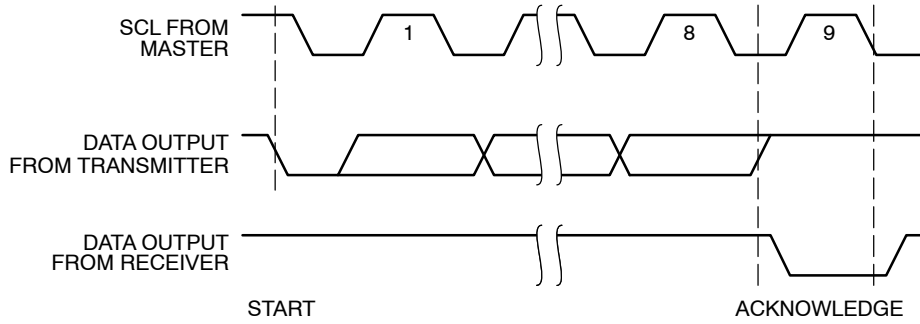
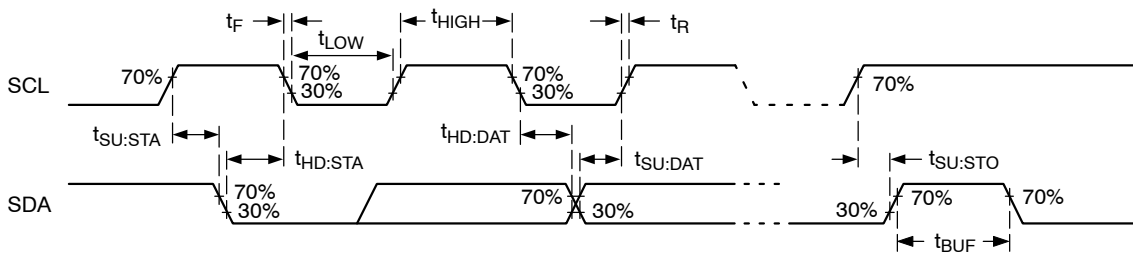

Figure 13. Acknowledge Timing
Figure 14. Bus Timing
4. Timing reference points are set at 30%, respectively 70% of V_{CC} , as illustrated in Figure 14. Bus loading must be such as to allow meeting the V_{IL} , V_{OL} as well as the various timing limits.
A matching Slave address is acknowledged (ACK) by the Slave by pulling down the SDA line during the 9th clock cycle (Figure 13). After that, the Slave will acknowledge all data bytes sent to the bus by the Master. When the Slave is the transmitter, the Master will in turn acknowledge data bytes in the 9th clock cycle. The Slave will stop transmitting after the Master does not respond with acknowledge (NoACK) and then issues a STOP. Bus timing is illustrated in Figure 14.